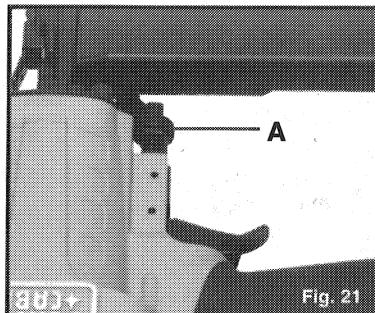

Fig. 21
The depth to which a fastener is driven is controlled by the depth adjustment knob (A) Fig. 21. The depth of drive is factory adjusted to a nominal setting. Test fire a fastener and check depth. If a change is desired, rotate the adjustment knob (A) Fig. 21: the adjustment knob has detents every  $\frac{1}{4}$  turn. Rotate the knob clockwise (see Fig. 21), to increase the depth of drive, rotate the knob counterclockwise to decrease the depth of drive. Test fire another fastener and check depth. Repeat as necessary to achieve desired results.